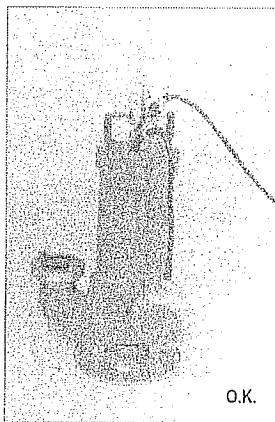

Fig. 7
- being hung (on a rope or a chain, Fig. 7)